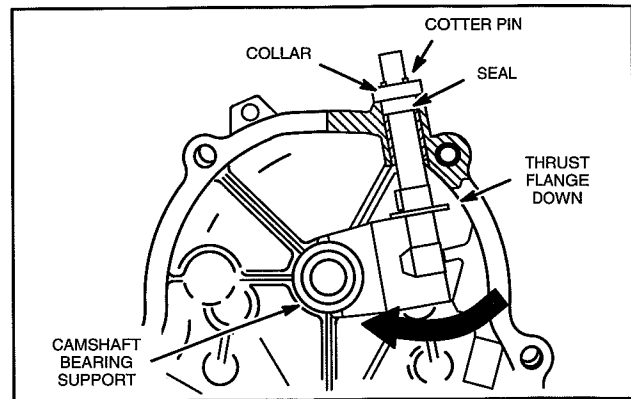

Fig. 12 – Install Governor Shaft
1. Assemble lower bushing to governor shaft with thrust flange down, Fig. 12.